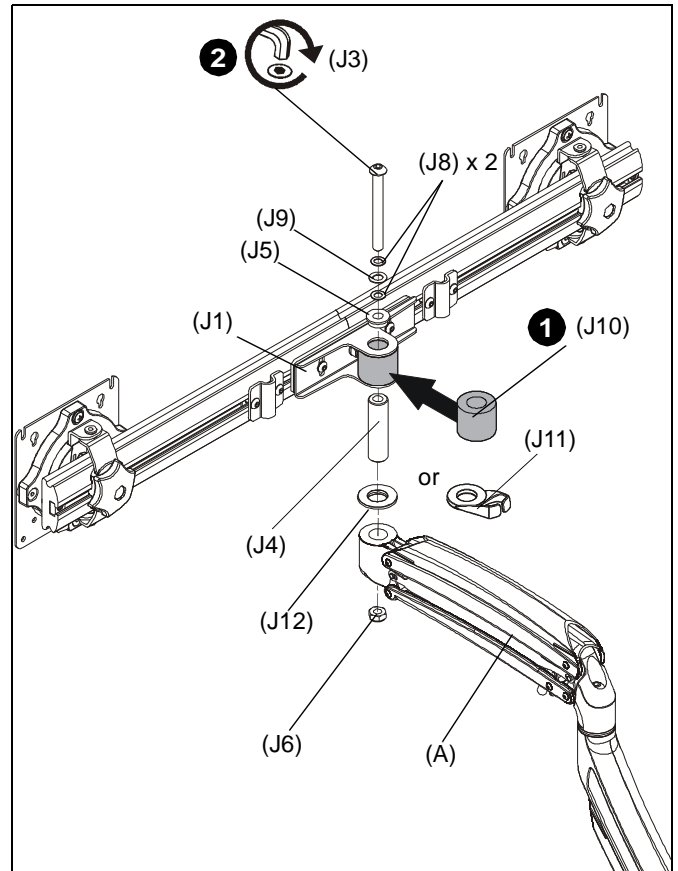

**Figure 6**
5. Place mount on desk over grommet hole. (See Figure 6)
6. Use 5/16-18 x 6" button head cap screw (G), removed washers, clamp bracket (E) and 5/16-18" square nut (F) to secure mount to desk. (See Figure 6)